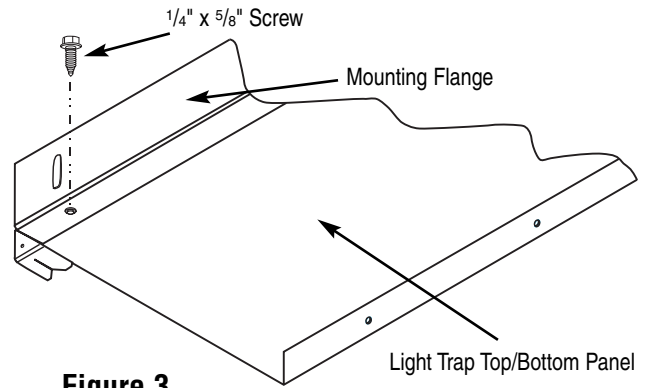

Figure 3
1. Using  $\frac{1}{4}$ " x  $\frac{5}{8}$ " screws provided, attach the **Mounting Flanges** to the Light Trap Tops and Bottoms as shown in Figure 3.